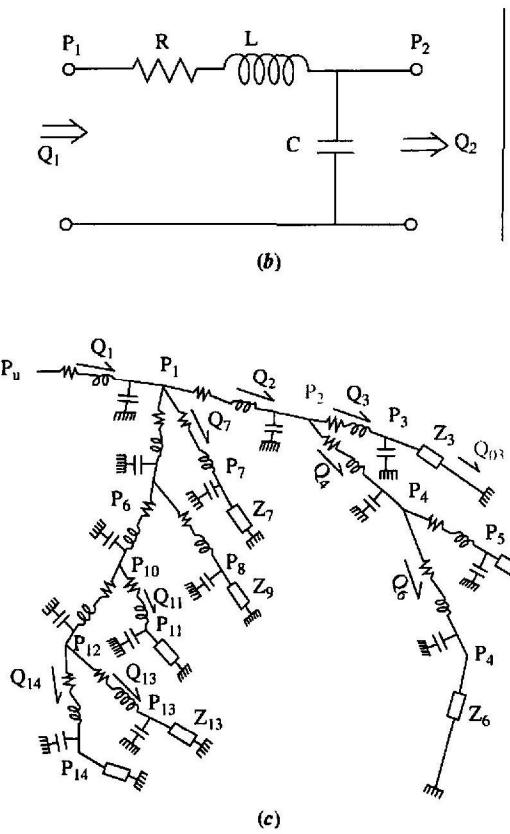

FIGURE P2.38 (© 1990 IEEE)
- 64. Blood vessel blockages can in some instances be diagnosed through noninvasive techniques such as the use of sensitive microphones to detect flow acoustic anomalies. In order to predict the sound properties of the left coronary artery, a model has been developed that partitions the artery into 14 segments, as shown in Figure P2.38(a).
Each segment is then modeled through the analogous electrical circuit of Figure P2.38(b), resulting in the total model shown in Figure P2.38(c), where eight terminal resistances (Z) have been added. In the electrical model, pressure is analogous to voltage and blood flow is analogous to current. As an example, for Segment 3 it was experimentally verified that $R_3 = 4176 \Omega$, $C_3 = 0.98 \mu\text{F}$, $L_3 = 140.6 \text{ H}$, and $Z_3 = 308,163 \Omega$ (Wang, 1990).
- It is well known in circuit analysis that if a constant input is applied to a circuit such as the one of Figure P2.38(b), the capacitor can be substituted by an open circuit and the inductor can be substituted by a short circuit as time approaches infinity. Use this fact to calculate the flow through Z_3 after a constant unit pressure pulse is applied and time approaches infinity.